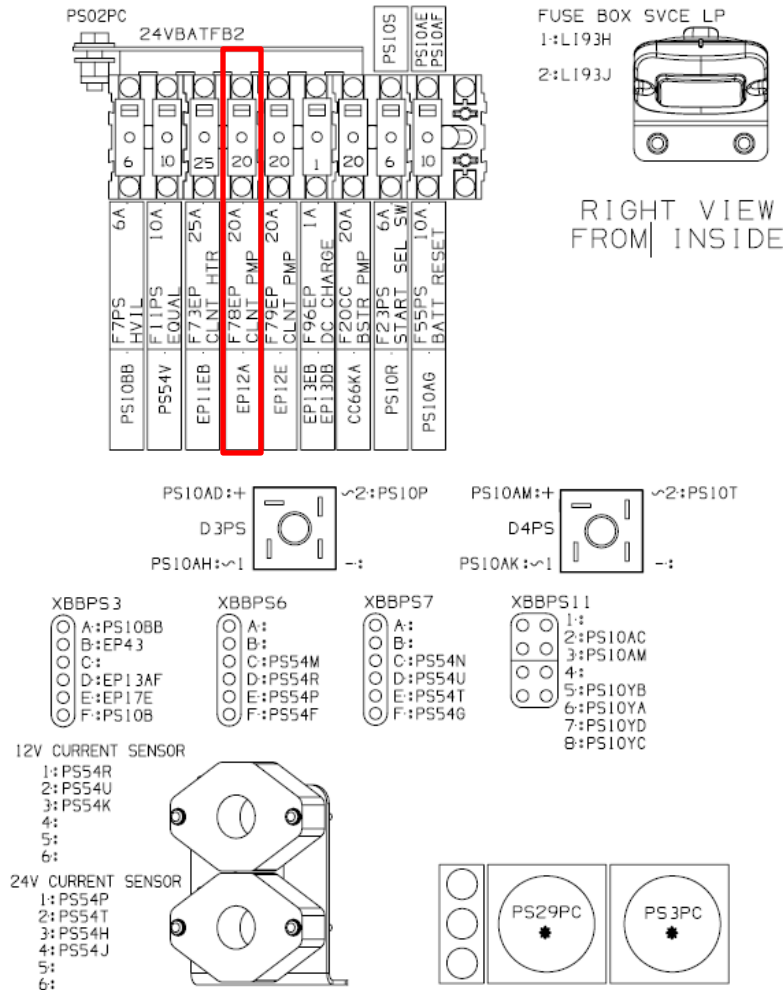

Figure 1: Location of Fuse EP12A
4. Locate and remove 20A fuse "EP12A" on the right wall on the inside of the fusebox. See Figure 1 below.